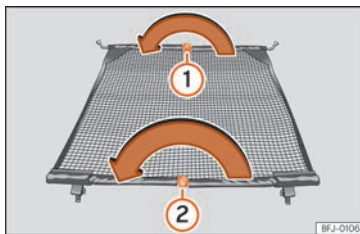

Fig. 132 Folding in the net partition.
- Press on the release button »» **Fig. 132** ① and bend the cross rod in the direction of the arrow with the button pressed.
- Press on the release button »» **Fig. 132** ② and bend the cross rod in the direction of the arrow with the button pressed.